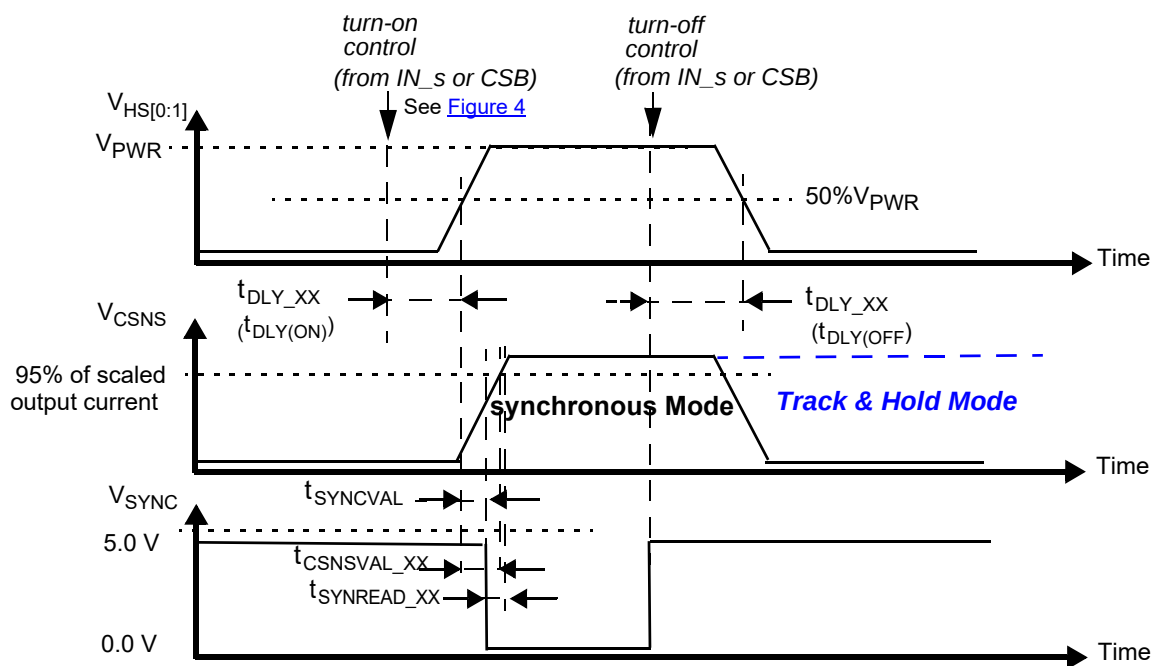

Figure 9. Synchronous and Track & Hold current sensing modes: associated delay and settling times
34. Settling time ( $= t_{\text{CSNSVAL\_XX}}$ ), SYNC output signal delay ( $= t_{\text{SYNCVAL\_XX}}$ ) and Read-out delay ( $= t_{\text{SYNREAD\_XX}}$ ) are defined for a stepped load current ( $100\text{ mA} < I(\text{LOAD}) < I_{\text{OCLX A}}$  FOR  $\text{CSNS\_RATIO\_S} = 1$ , AND  $300\text{ mA} < I(\text{LOAD}) < I_{\text{OCLX A\_0}}$  FOR  $\text{CSNS\_RATIO\_S} = 0$ ) See Figure 9 and Output current monitoring \(CSNS\).
The CS pin allows independent current monitoring of channel 0 or channel 1 up to the steady state overcurrent threshold. It can also be used to sense the device temperature. The different functions are selected by setting bits CSNS1\_en and CSNS0\_en to the appropriate value (Table 23). When the CSNS pin is sensed during switch-off in the (optional) track & hold mode (see Figure 9), it outputs the scaled value of the load current as it was just before turn-Off. When several devices share the same pull-down resistor, the CSNS pins of devices the current of which is not monitored must be tri-stated. This is accomplished by setting CSNS0\_en = 0 and CSNS1\_en = 0 in the GCR register (Table 10). Settling time ( $t_{CSNSVAL\_XX}$ ) is defined as the time between the instant at the middle of the output voltage's rising edge ( $HS[0:1] = 50\%$  of  $V_{PWR}$ ), and the instant at which the voltage on the CSNS-pin has settled to  $\pm 5.0\%$  of its final value. Anytime an overcurrent window is active, the CSNS pin is disabled (see Overcurrent detection on resistive and inductive loads). The current and temperature sensing functions are unavailable in Fail-safe mode and in Normal mode when operating without the  $V_{DD}$  supply voltage. In order to generate a voltage output, a pull-down resistor is required ( $R(CSNS)=1.0\text{ k}\Omega$  typ. and  $470 < R(CSNS) < 10\text{ k}$ ). When the current sense resistor connected to the CSNS pin is disconnected, the CSNS voltage is clamped to  $V_{CL(CSNS)}$ . The CSNS pin can source currents up to about 5.6 mA.
To synchronize current sensing with an external process, the SYNC signal can be connected to a digital input of an external MCU. SYNC is asserted logic low when the current sense signal is accurate and ready to be read. The current sense signal on the CSNS pin has the specified accuracy  $t_{SYNCREAD\_XX}$  seconds after the falling edge on the SYNC pin (Figure 9) and remains valid until a rising edge is generated. The rising edge that is generated by the SYNC pin at the turn-OFF instant (internal or external) may also be used to implement synchronization with the external MCU. Parameter  $t_{SYNCVAL\_XX}$  is defined as the time between the instant at the middle of the output-voltage rising edge ( $HS[0:1] = 50\%$  of  $V_{PWR}$ ), and the instant at which the voltage on the SYNC-pin drops below 0.4 V ( $V_{SOL}$ ). The SYNC pins of different devices can be connected together to save  $\mu$ -controller input channels. However, in this configuration, the CSNS function of only one device should be active at a time. Otherwise, the MCU does not determine the origin of the SYNC signal. The SYNC pin is open drain and requires an external pull-up resistor to VDD.